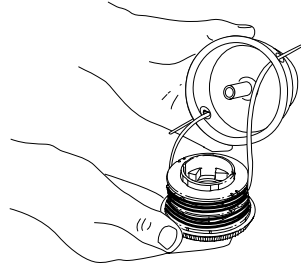

Fig. 26
3. Insert the trimming line ends of the new inner reel into the outer spool eyelets (Fig. 26). Push the new inner reel, arrow side up, into the outer spool.